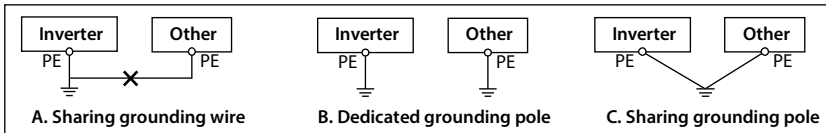

Figure 4-14 Grounding method
Do not share the grounding wire with other devices (A). HD30 can share grounding pole with other devices (C). It achieves the best effect if HD30 and other devices use dedicated grounding poles (B), as shown in Figure 4-14.